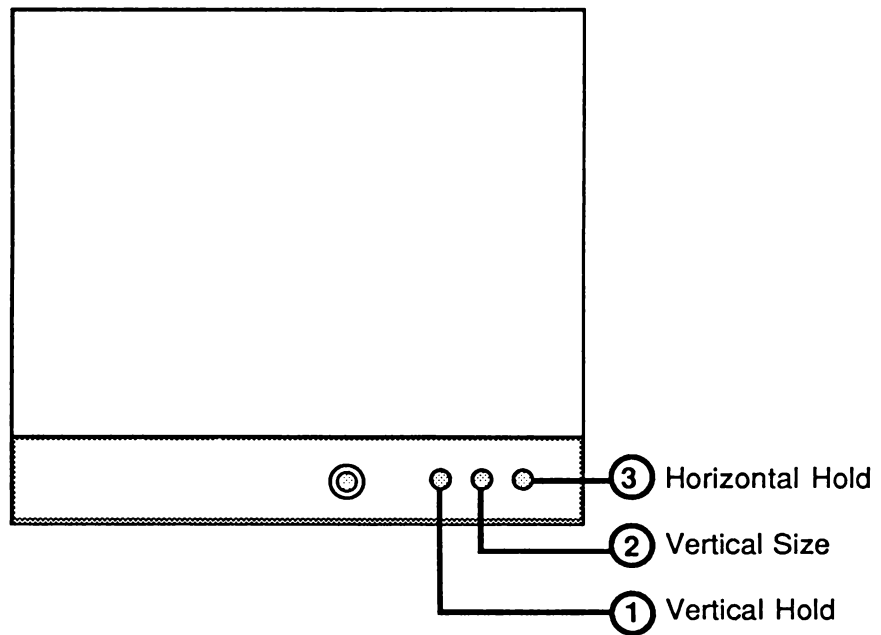

FIGURE 3
7. Locate the **VERTICAL HOLD** control on the back panel of the monitor (Figure 3, #1). If the picture is moving vertically, turn the control until the picture becomes stable.
8. If the picture looks stretched, so that the characters on the top and bottom lines are partially lost, or if the characters look squashed, turn the **VERTICAL SIZE** control (Figure 3, #2) until you have lengthened or shortened the picture to the desired degree.
9. If the picture is moving horizontally, turn the **HORIZONTAL HOLD** control (Figure 3, #3) until the picture becomes stable.